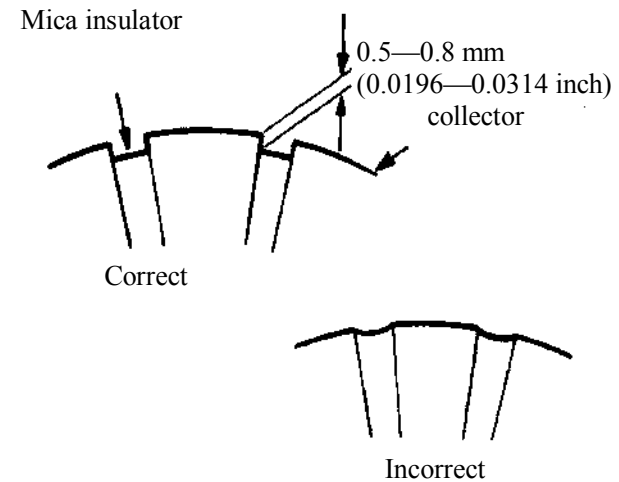

Figure 6.2-5
(4) Inspect the depth of mica of the collector. As shown in Figure 6.2-5, if the depth is under the limit value, replace it.
(5) Grounding test: Check the conductivity between the collector and armature coil core. Replace is a must in case of conducting.
(6) Open circuit test: Check the conductivity between the collector chips. In case that any tested point is not conducting, i.e. there is an open circuit phenomenon, the armature must be replaced.